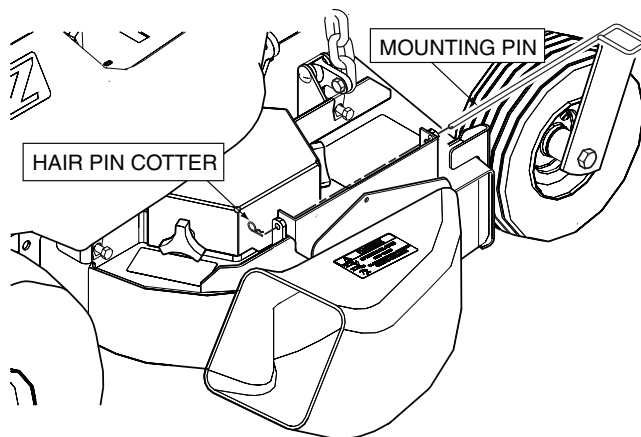

Figure 2-12. GC Discharge Boot Installation
- Install the discharge boot assembly to the cutter deck and secure to the discharge chute mounting tabs. Secure with the long clevis pin and hair pin cotter. See Figure 2-12.